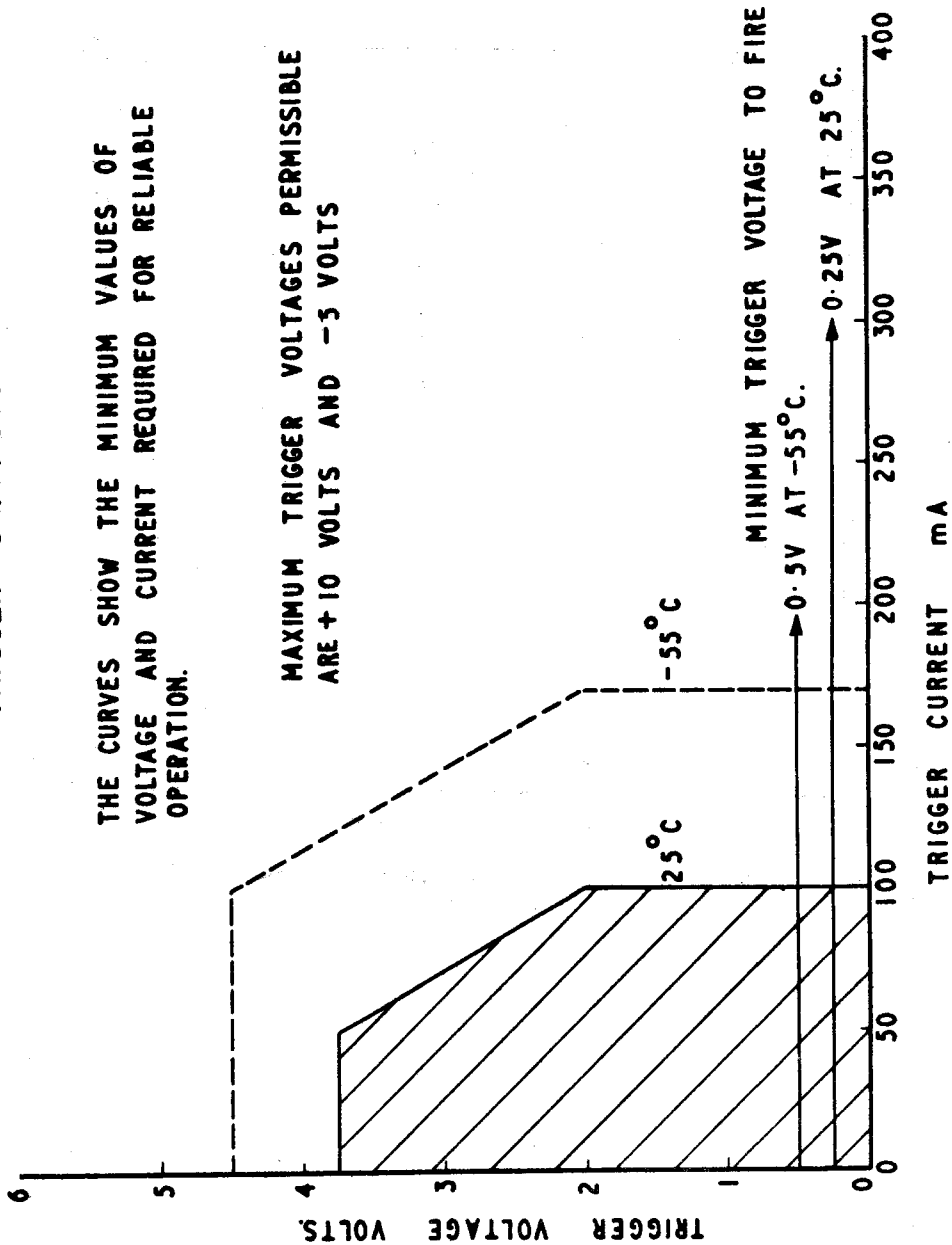

FIG. 5
5. See Figure 5 for typical turn off characteristic curves.